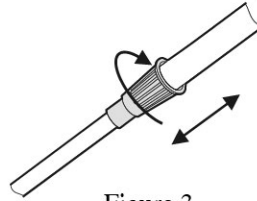

Figure.3
- Turn the stem's lock nut clockwise until it loosens, lengthen or shorten the stem so when you stand upright with your detector in your hand, the search coil is level with and about 1/2 inch above the ground with your arm relaxed at your side. (Figure.3).